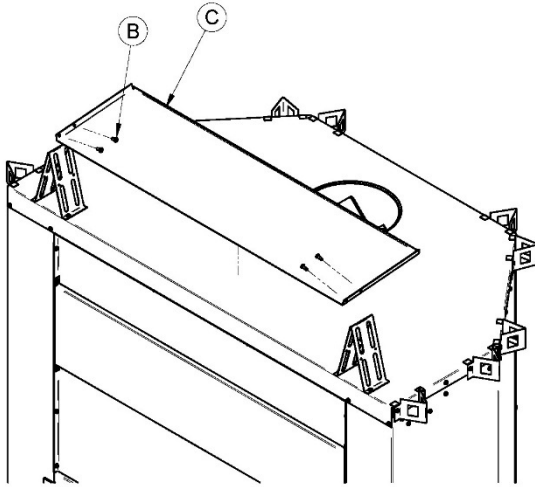

Figure 6
3. As illustrated in **Figure 6 and 7**, position the heat shield (C) between the spacers previously installed with the folds facing up. Align the holes of the shield with the ones of the left and right spacer and secure it with 4 screws (B).